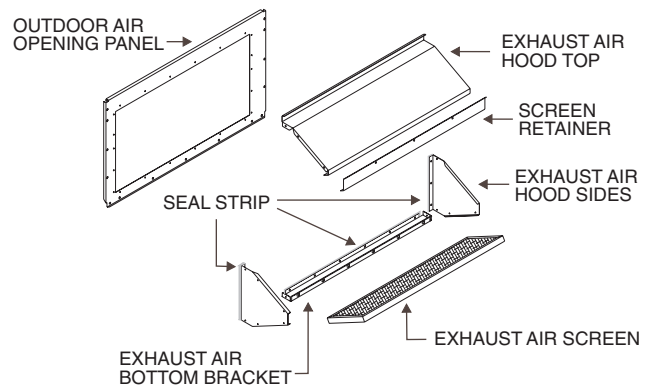

Fig. 28 — Exhaust Air Hood Assembly
Remove the EconoMi\$er hood from its packaging. Remove shipping brackets holding hood package to EconoMi\$er. Locate the outdoor-air opening panel. See Fig. 28. Remove hood assembly shipping brackets located on the back (sloped) side of the EconoMi\$er assembly. These brackets are used to retain the hood assembly during shipping only.
3. Install the 1/8 x 3/4-in. seal strip on the exhaust air hood side panels and the bottom bracket. Assemble the exhaust air hood to the outdoor-air opening panel as shown in Fig. 28, using the screws provided. *Do not attach hood assembly to unit at this time.*